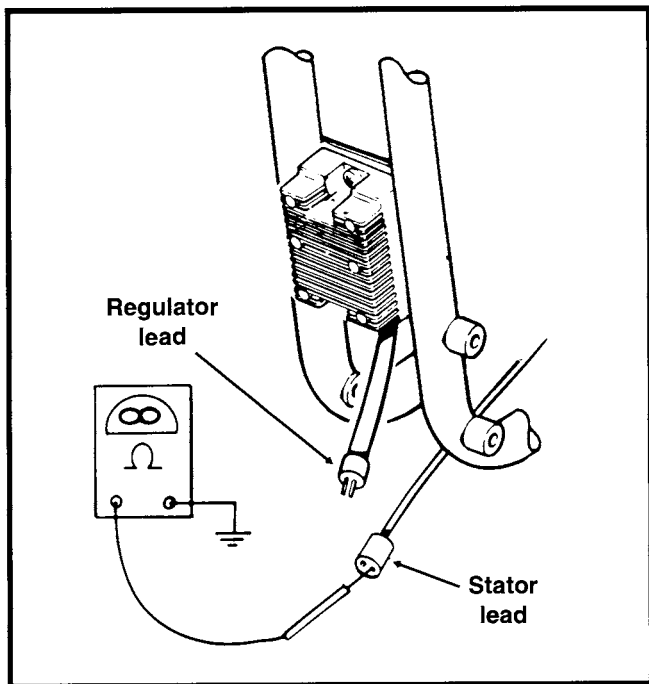

Figure 5. Test for Grounded Stator
2. See Figure 5. Connect an ohmmeter on the RX1 scale between crankcase and either stator socket. There should be no continuity (∞ ohms) across either test point. Any other reading indicates a grounded stator which must be replaced.